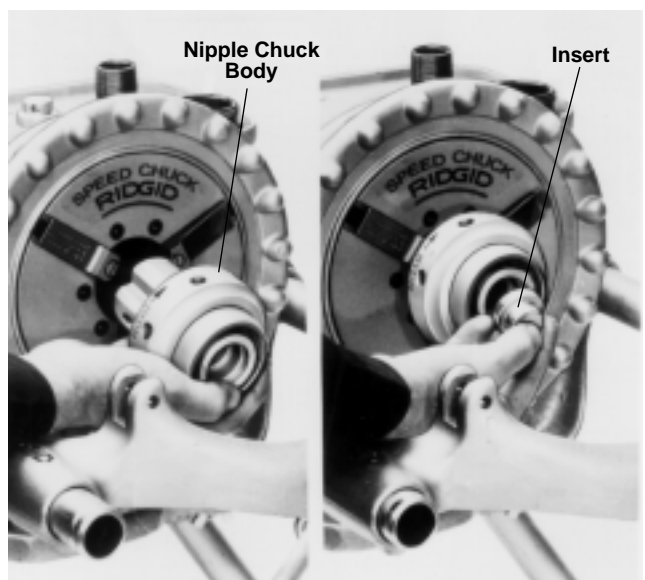

Figure 23 – Installing Nipple Chuck Body and Insert
3. Place nipple chuck body (Figure 23) in Power Drive chuck, gripping jaw grooves. Tighten chuck with snap spin of handwheel.
4. Position insert (Figure 23) with small end toward chuck body for 1/8" to 3/4" pipe; large end toward chuck body for 1" pipe; no insert required for 1-1/4" pipe and up.